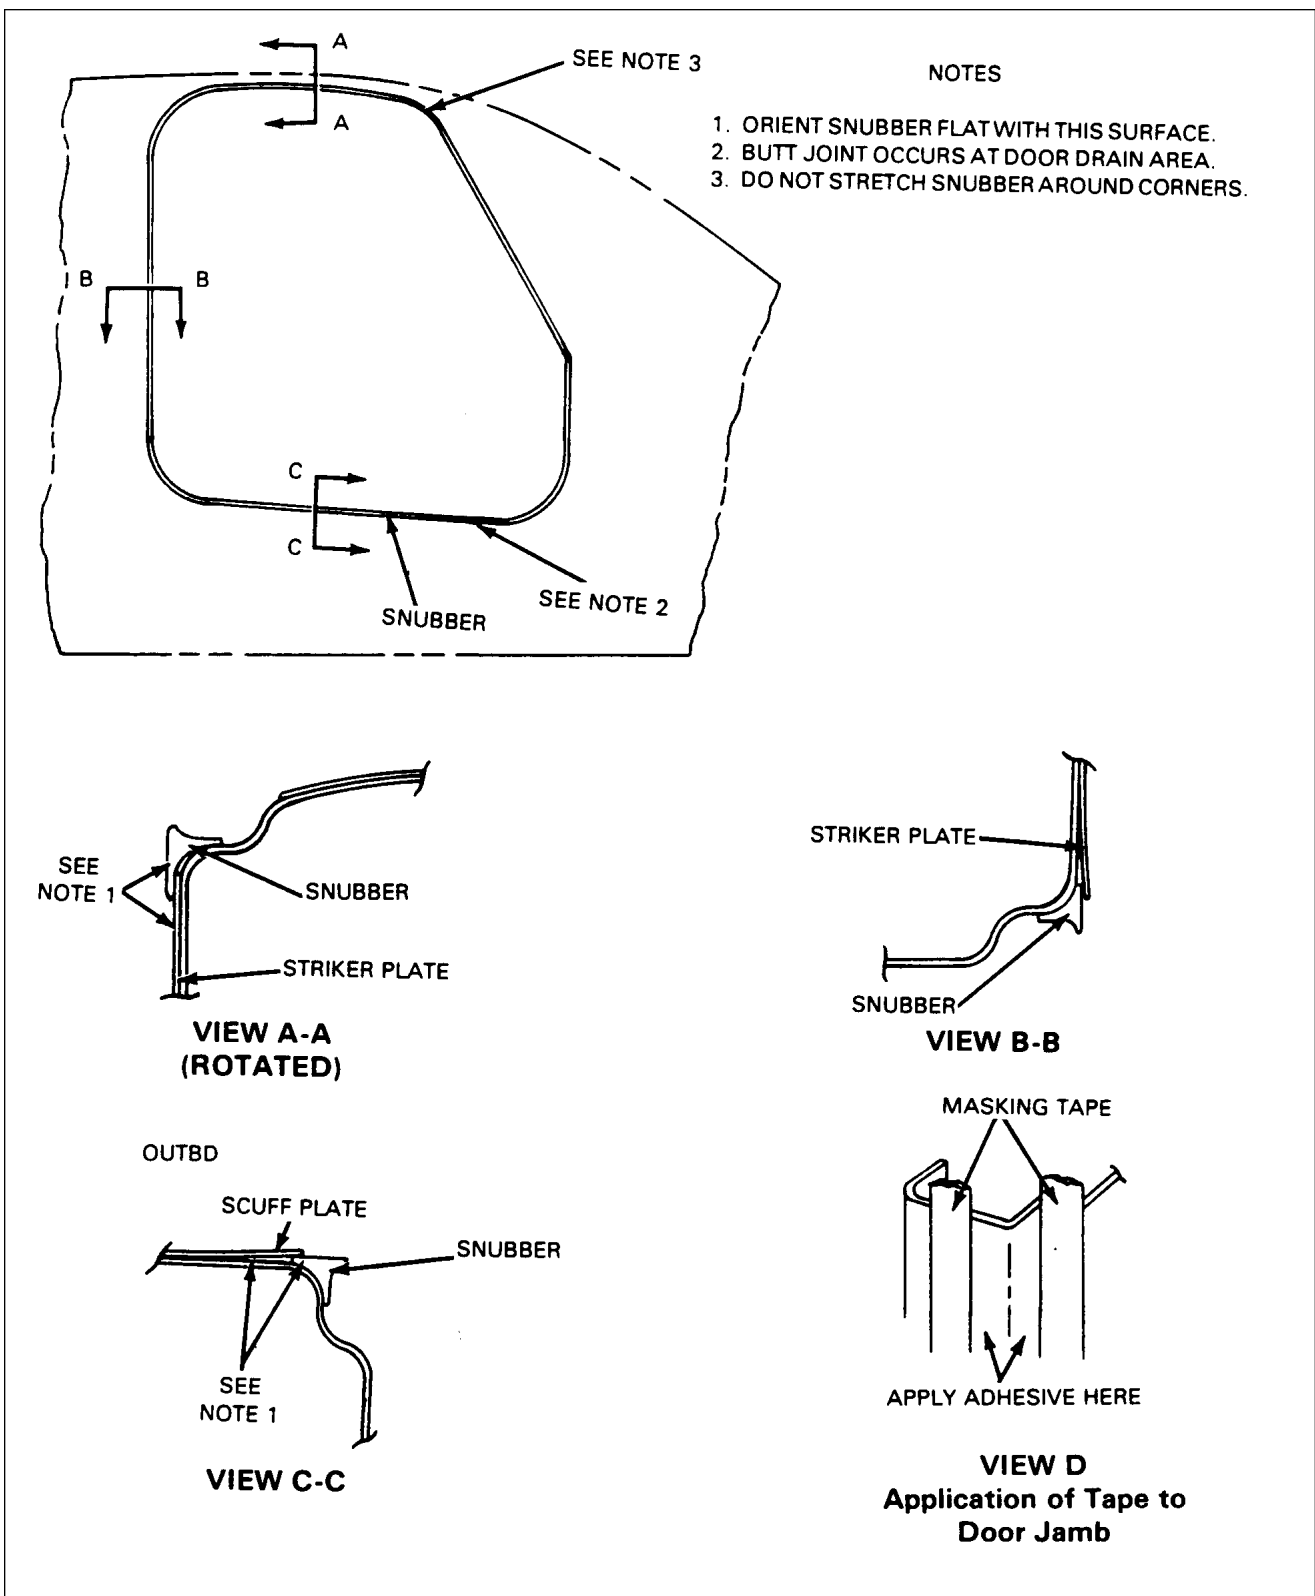

Figure 52-1. Installation of Door Snubber
E. REMOVAL AND INSTALLATION OF DOOR SNUBBER. (Refer to Figure 52-1)
Verify snubber leg goes under striker plate for side latch and over striker plate for upper latch. (Refer to figure 52-1.)
- b. Apply adhesive to door jamb as shown in Figure 52-1, view D, and to the inside surface of snubber.